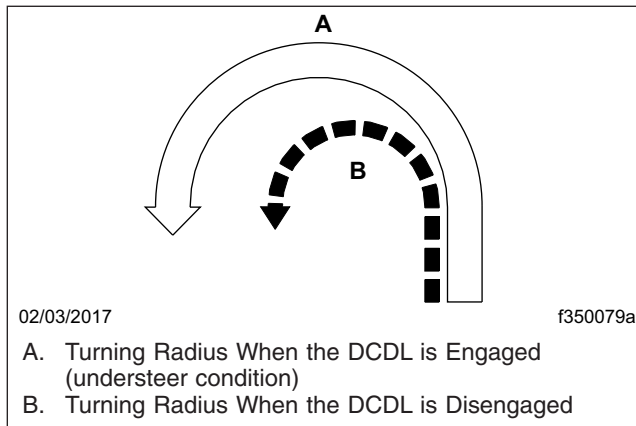

Fig. 16.7, Turning Radii
3. Drive cautiously and do not exceed 25 mph (40 km/h). When the differential is fully locked, the turning radius will increase because the vehicle understeers. See Fig. 16.7.